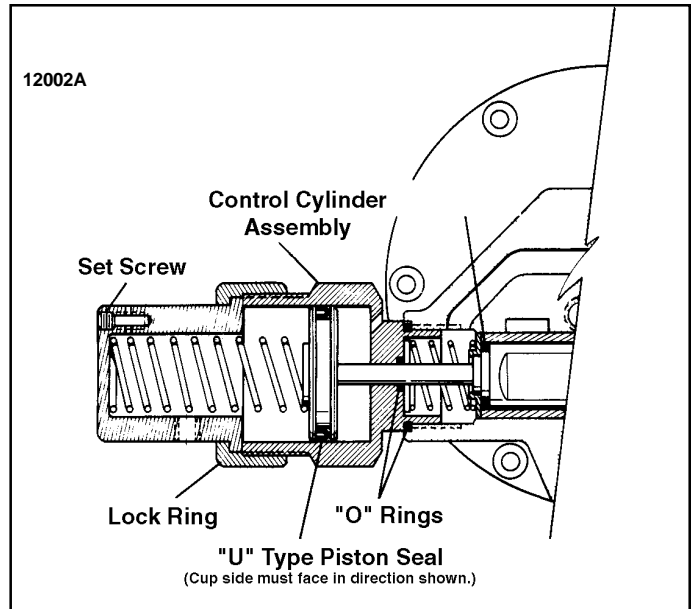
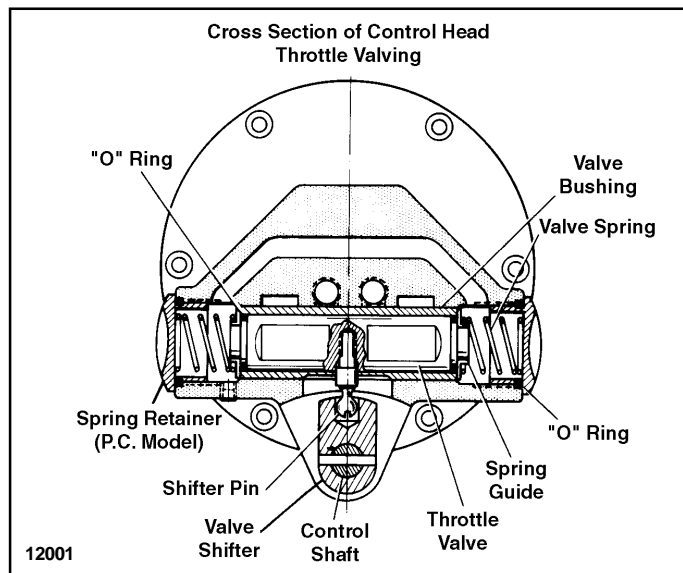

Figure 7-14. Section View Showing Assembly of Control Cylinder on Control Head (Pendant Throttle Control Models).
Figure 7-13. Section View Showing Assembly of Throttle Valve, Springs and Valve Shifter in Control Head.
(2) Lift muffler and screen from recess in control head housing.
(3) On pendant throttle control models, remove control cylinder assemblies from each side of control head housing (Figure 7-14). On pull cord control models, remove throttle valve spring retainer caps from each side of housing (Figure 7-13). Valve springs, spring guides and "O" ring seals can now be removed from valve bore at each side of housing.
(4) The throttle valve is retained in the control head by the valve shifter pin. The pin is assembled with LOCTITE on the threads and should not be removed for routine servicing. If valve is to be removed, use a hex key to remove pin from bottom of throttle valve. (See Figure 7-13.) The valve can now be removed from bushing in housing. The throttle valve bushing is pressed into place and honed to provide a .0001 to .0003 inch clearance with valve. If bushing is scored, worn, or otherwise damaged, the housing and bushing assembly should be replaced along with the valve.
(5) Remove air inlet swivel body and bushing from top of housing. Retain bushing gasket for reuse. Pull strainer screen from housing bore.
(6) Remove retaining ring from bottom of swivel body and pull off bushing. Remove "O" ring seal from its groove in bushing.
(7) Disassemble control cylinder (pendant throttle control models) by removing cylinder lock ring. Cylinder and cap will come off with lock ring. Lift out spring and then remove piston and seal assembly from cylinder. Piston shaft "O" ring seal and retainer washer will drop out as piston is removed.
(1) Lightly oil throttle valve and bushing with S.A.E. 20 oil. If shifter pin was removed from valve, assemble valve with threaded hole facing slot at bottom of bushing in housing (Figure 7-13). Shifter pin should be assembled with LOCTITE. Extreme care must be taken not to get any LOCTITE on valve outside diameter since this will lock up valve and scrap the complete head assembly.
(2) Use new "O" ring seals at each end of valve. Install spring guides and valve springs in bores on each side of housing and secure with spring retainer (pull cord models) or control cylinders (pendant throttle control models). Use new "O" ring gaskets.
(3) At reassembly of control cylinders (pendant throttle control models), use new "U" type seals on piston heads and "O" ring seals on piston stems. Be sure "U" type seals face direction illustrated in Figure 7-14.
(4) Use new "O" ring gaskets on adjusting screws. When installing screws in control head housing, turn them in until heads are flush or slightly below face of housing. Adjustment is accomplished during testing of hoist, paragraph 2-4.
(5) At reassembly of screen and air inlet swivel, install a new "O" ring seal inside swivel bushing.
(6) In mounting control head housing on hoist, use a new motor-to-head air seal gasket and a new head-to-frame gasket.